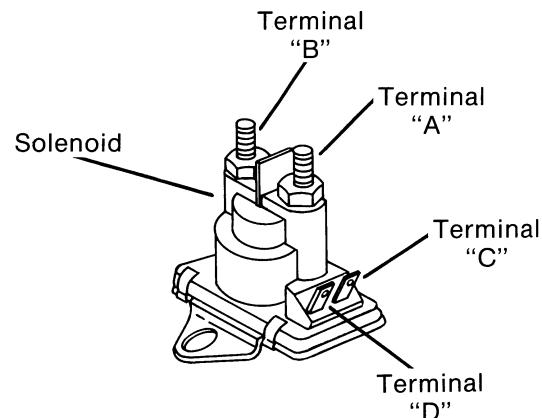

FIG. 32
- D. Connect leads of continuity tester or ohmmeter to the "A" and "B" terminals of solenoid. (Fig. 32) If continuity exists or ohmmeter reads zero, replace solenoid. If no continuity exists, go on to step "E". Repeat this procedure two or three times to insure a positive test.